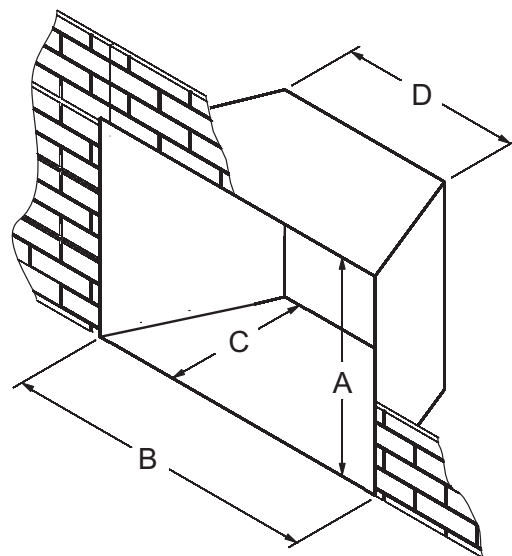

Figure 2
2. Minimum fireplace opening requirements are shown in **Figure 2** of this installation manual. The firebrick (refractory), glass doors, screen rails, screen mesh and log grates can be removed from a factory built fireplace in order to gain minimum gas insert opening requirements prior to installing the gas fireplace insert.